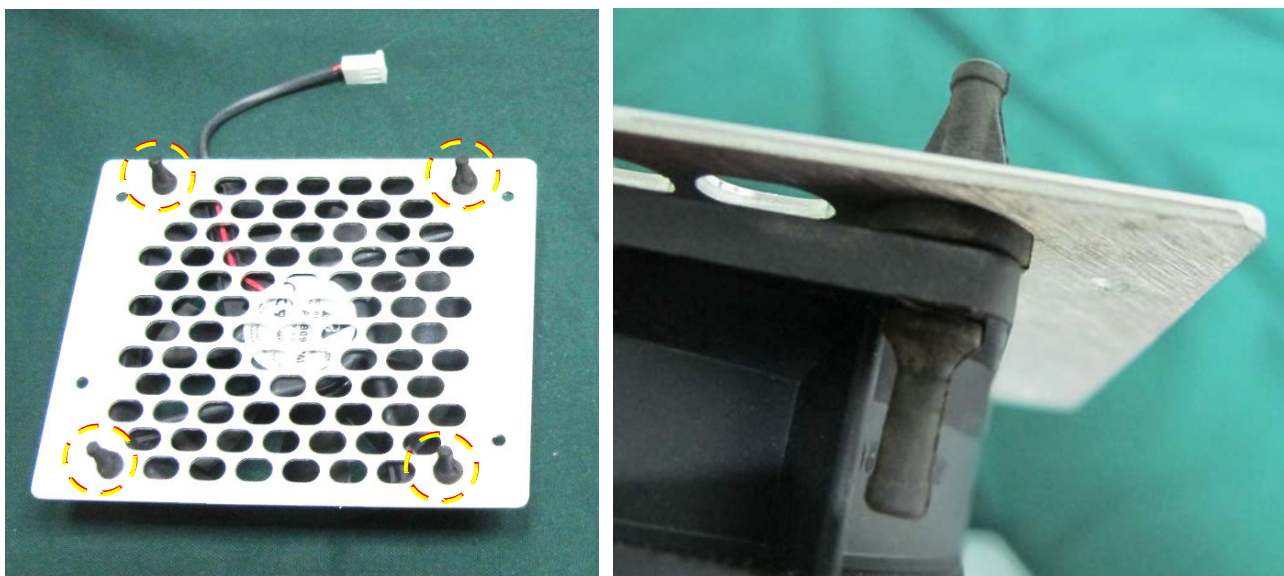

Figure 8-175 Flexible Rubber Holders - Cut and Remove
- 4.) To remove the fan from its base, stretch one of the flexible rubber securing holders (grommets) and cut it. Then pull it away from the fan's base to remove it - see Figure 8-175 below
- 1.) From the underside of the fan, thread the rubber holder through the aperture on the fan and pass the rubber holder through the aperture on the fan base - Figure 8-175.